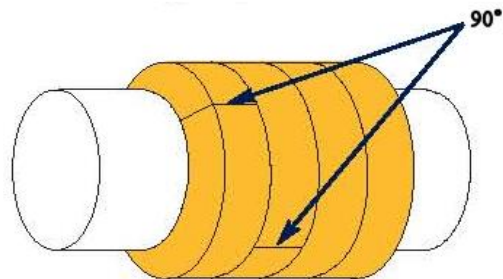

Figure 7. Packing Alignment
6. Check the shaft (6) for nicks and score marks; repair or replace as necessary.
8. Install the first ring of packing (13) with joint at approximately the 1 o'clock position (30° right of vertical). Refer to Figure 7 for packing alignment.